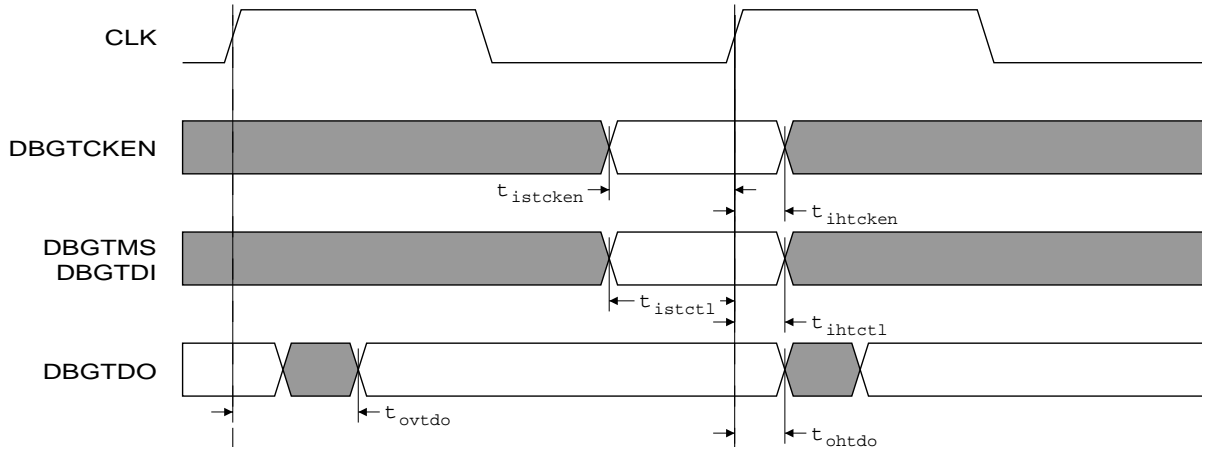

Figure 7-5 Scan general timing
- *Figure 7-5 Scan general timing.*